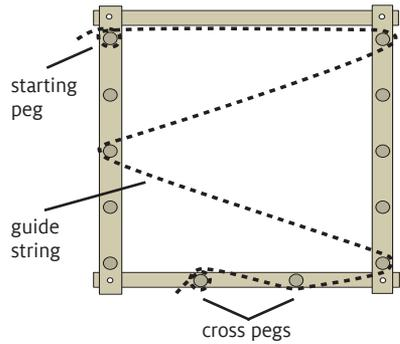

FIGURE 3: SET UP THE GUIDE STRING
**5.** Using a non-stretchy yarn in a color that contrasts with your warp, cut a guide string a few inches longer than your warp length. Tie one end around the left cross peg, as shown in Figure 3. Pass the guide string under the right cross string, then outside the next closest peg.